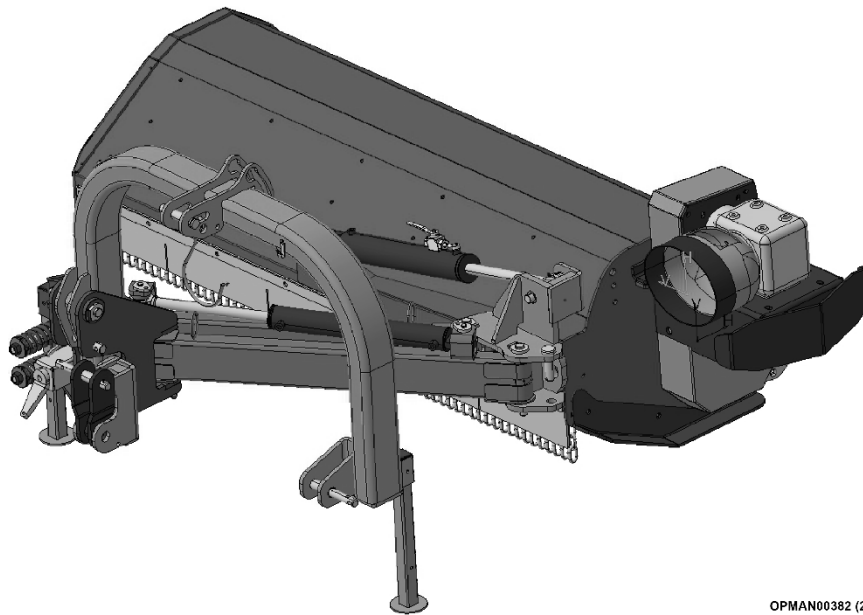

Figure 19
- Use the specific supporting feet in the parking position (Figure 19).